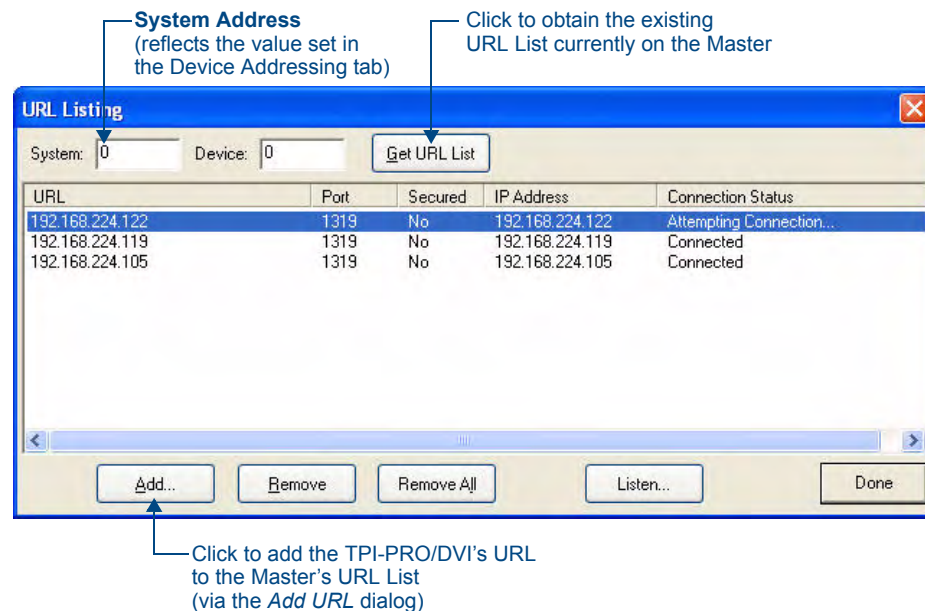

FIG. 48 NetLinX Studio - URL Listing dialog
7. In NetLinX Studio, select **Diagnostics > URL Listing** to open the *URL Listing* dialog (FIG. 48).